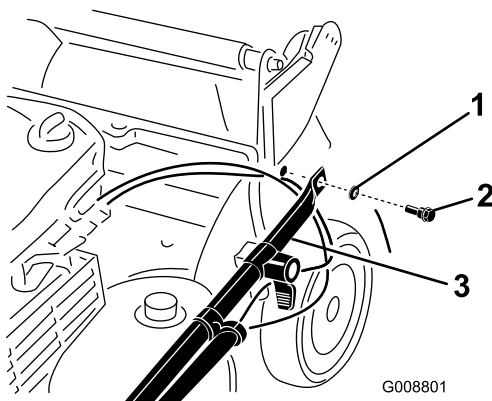

Figure 3
2. Attach the handle ends to the mower housing with 2 washers and 2 handle bolts (Figure 3), **but do not tighten the handle bolts.**
Important: Route the cables *under* the handle (Figure 3).